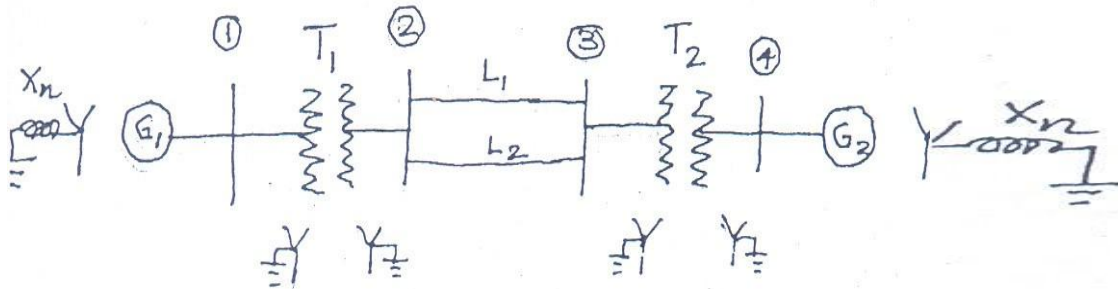

Fig.2
2. Determine the fault current and MVA at faulted bus for a line to ground (solid) fault at bus 4 as shown in Fig.2